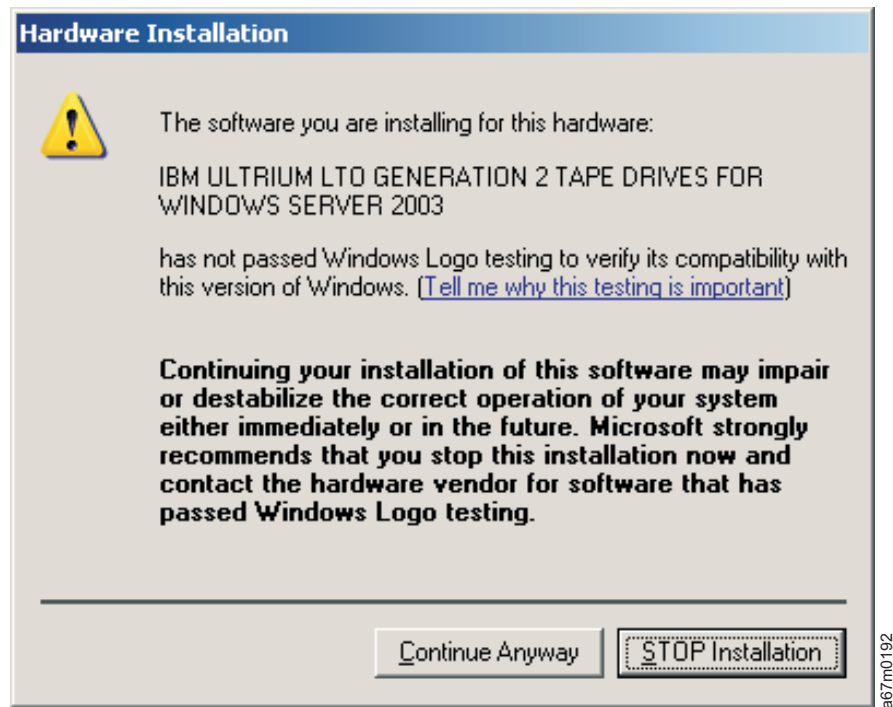

Figure 38. Windows Logo Testing Screen
21. If you are installing a driver that has not been certified by the Microsoft Windows Hardware Quality Laboratories (WHQL), you will be presented with a warning screen. See Figure 38 on page 221. If you want to continue installing the driver, select **Continue Anyway**.